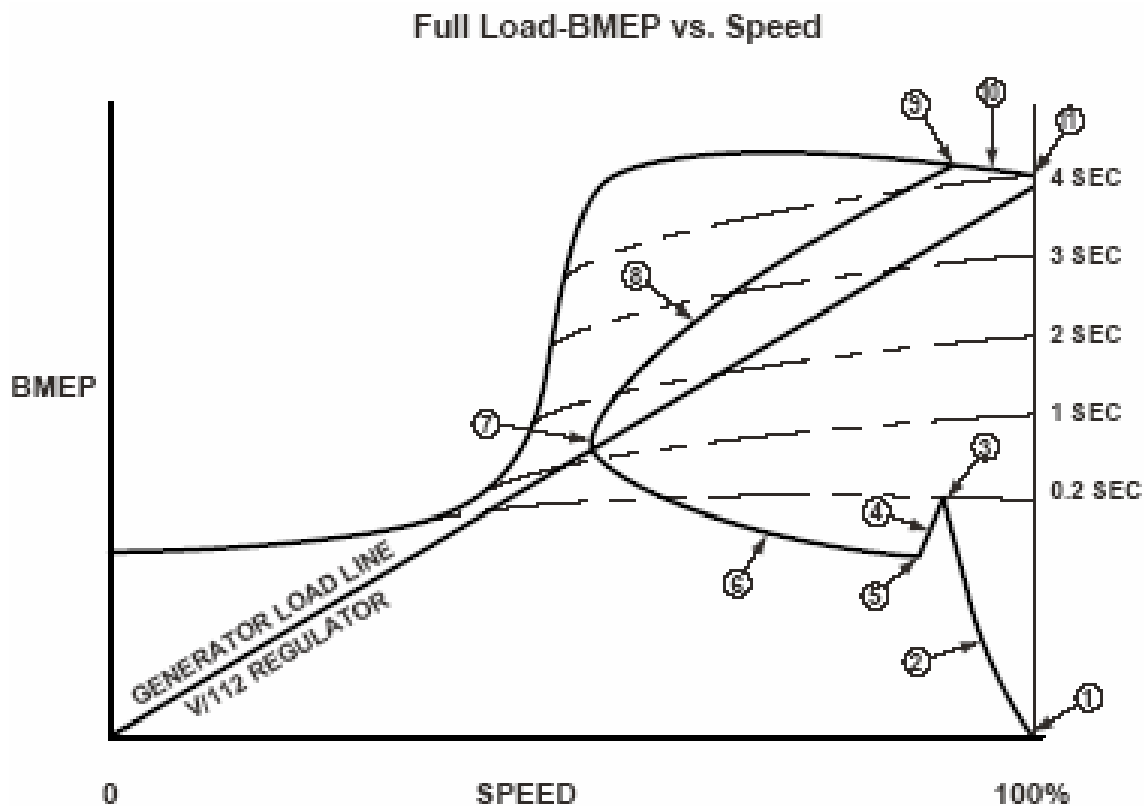

Figure 5
Figure 5 and **Figure 6** illustrate full load addition to a genset with a turbocharged-aftercooled (TA) engine, and a 1:1 Volt/Hz voltage regulator. **Figure 5** shows how the parameters vary as a function of engine speed; **Figure 6** presents the same events versus time.